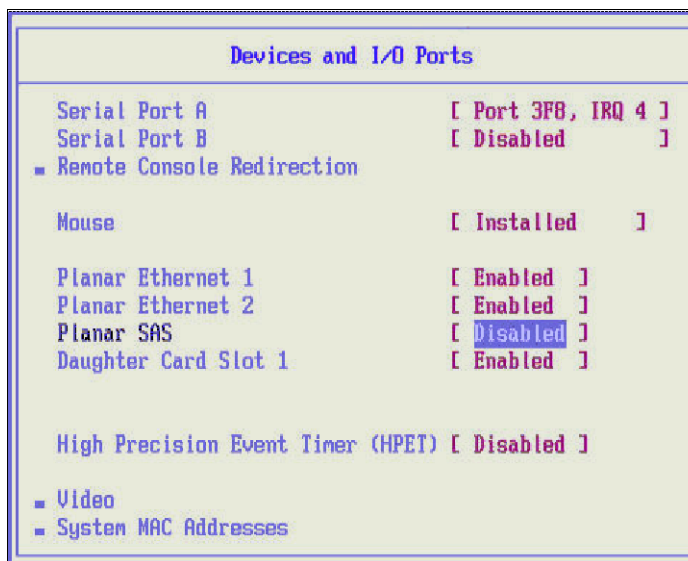

Figure 5-41 Disable Planar SAS
3. Select **IDE configuration** from the next menu. Disable the **Planar SAS**, as shown Figure 5-41.